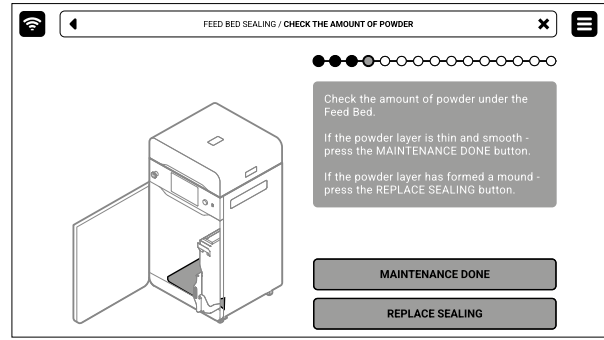

Fig. 13.40 Check the amount of powder under the Beds.
10. Check the amount of powder under the Feed Bed. If the powder layer is thin and smooth – press the **MAINTENANCE DONE** button (fig. 13.40).
11. If the powder layer has formed a mound – press the **REPLACE SEALING** button (fig. 13.40).